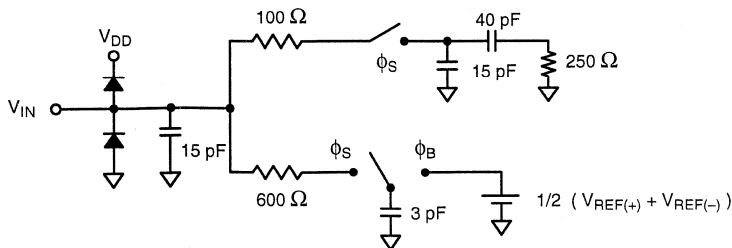

Figure 4. Analog Input Equivalent Circuit
- 3 See V_{IN} input equivalent circuit (*Figure 4*).